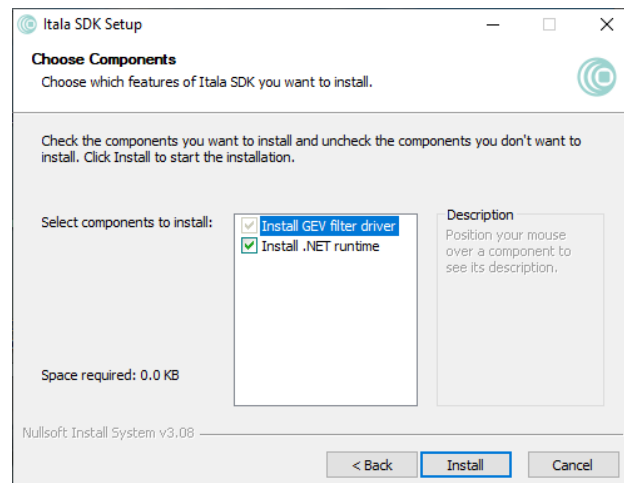

Figure 9: Components selection window.
5. Select the components which need to be installed (Fig.9). In case of installation of the filter driver only, step 6 can be skipped.